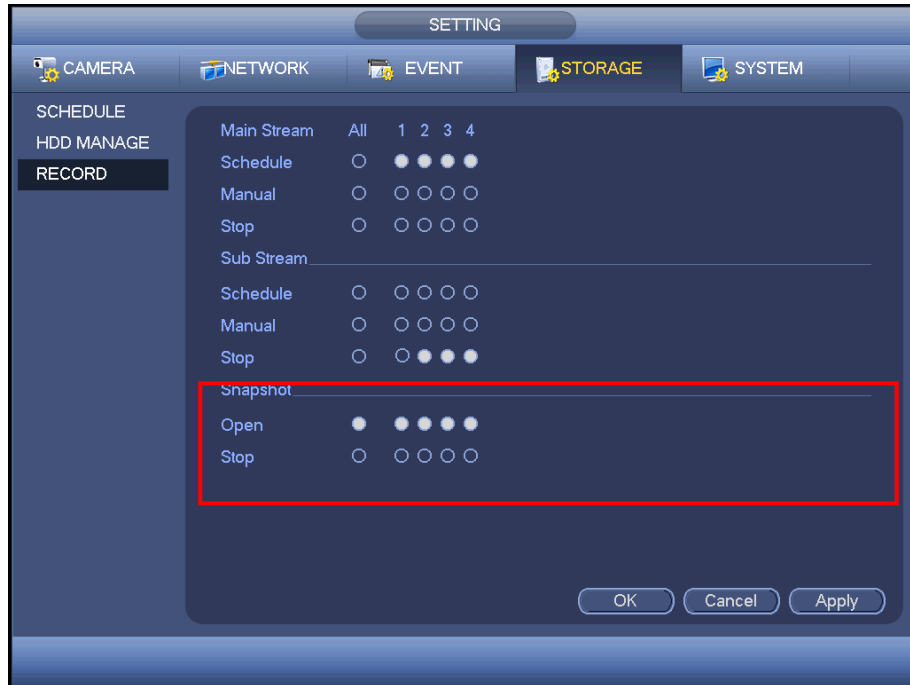

Figure 4-105
- On the preview interface, right click mouse and then select Manual->Record, or in the main menu, from Setting->Storage->Record, check the box to enable snapshot function of corresponding channels. See Figure 4-105.